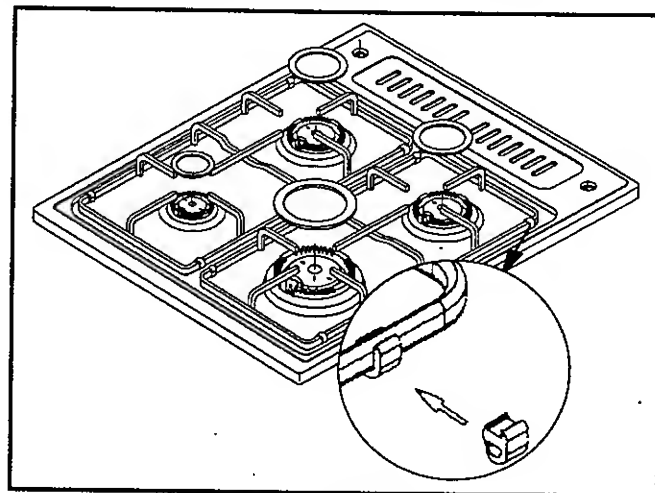

Figure 8
- The cookware supports must be in their places on the cook top. These plastic rings are already in place and are used to prevent rocking as shown in Figure 8. Use stable cookware with a flat bottom and always place the utensils on the cookware supports before lighting the burner.